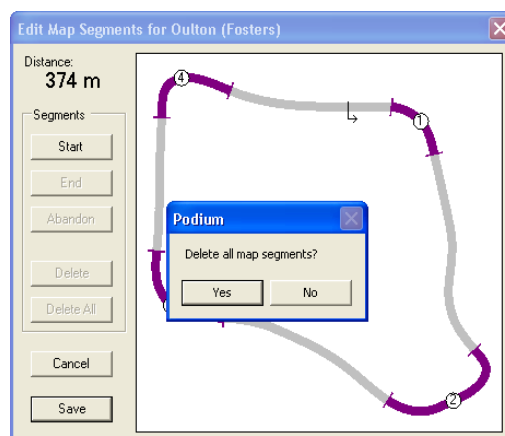

Figure 26 - Edit Map Segments Dialog (Delete All Segments)
3. Click **Delete All**. A message box is displayed which requests confirmation of the delete operation (see Figure 26).